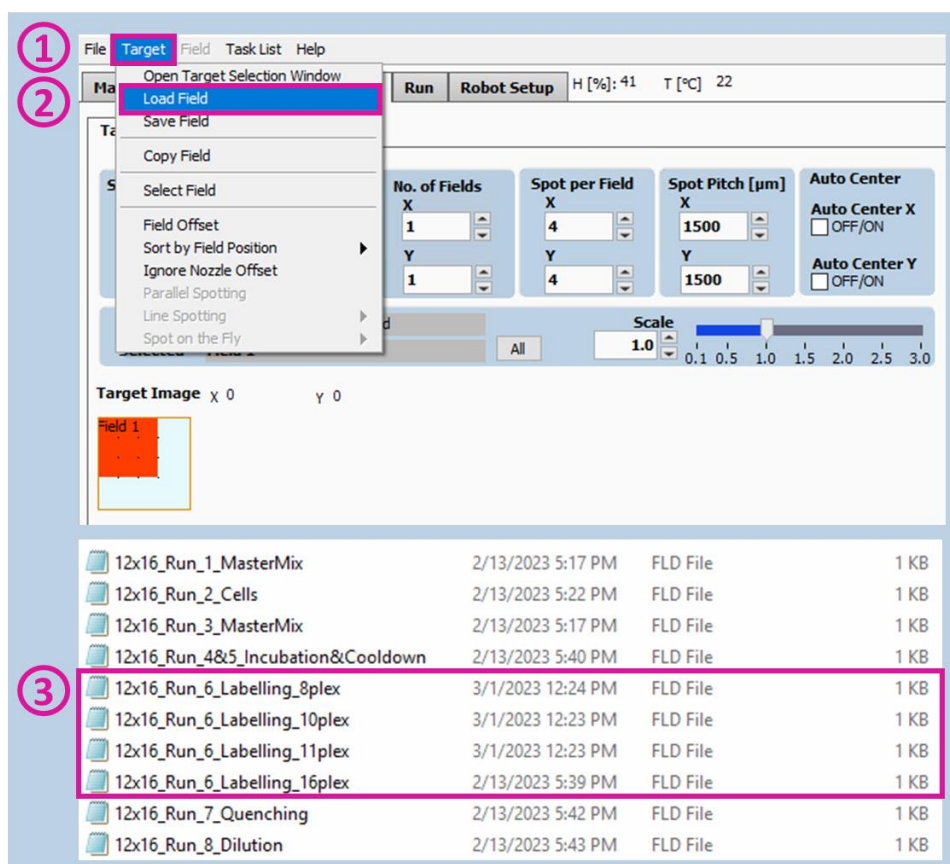

Figure 41: Load Field for TMT labelling
Load the field “12x16_Run_6_Labelling_Nplex” with N corresponding to the number of TMT labels that are used. We provide pre-programmed fields for 8-, 10-, 11- and 16-plex labelling (Figure 41, Figure 42, Figure 42).
- “Target setup” (Figure 41 ①) >> “Target” (Figure 41 ②) >> “Load Field” (Figure 41 ③).